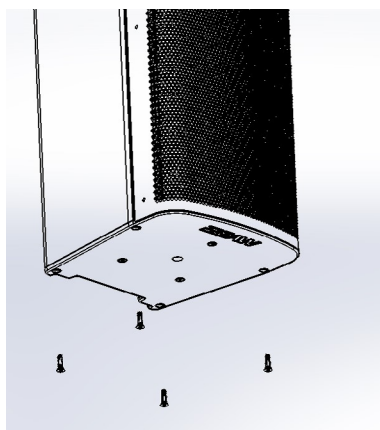

Figure 3 - Remove screws
2. Attach slide plate (C) to bottom of next AC6
- Remove 4x M5x12mm screws from bottom of AC6 (Figure 3).